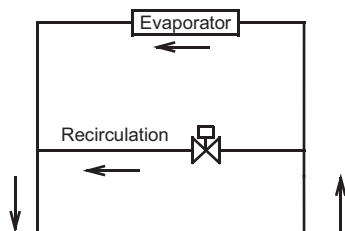

Fig. 4-3
- c. The inlet pipe of the evaporator must be provided with a target flow controller, to realize flow-break protection for the unit. Both ends of the target flow controller must be supplied with horizontal straight pipe sections whose diameter is 5 times that of the inlet pipe. The target flow controller must be installed in strict accordance with "Installation & Regulation Guide for Target Flow Controller" (Figure 4.3~4.4). The wires of the target flow controller should be led to the electric cabinet through shielded cable (see Electric Controlling Schematic Diagram for details). The working pressure of the target flow controller is 1.0MPa, and its interface is 1 inch in diameter. After the pipelines are installed, the target flow controller will be set properly according to the rated water flow of the unit.